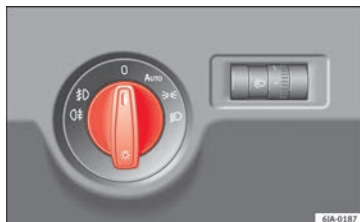

Fig. 129 Instrument panel: light control.
The location of the controls of **right-hand drive** cars differs slightly from the location shown here » **Fig. 129** » page 117. However, the symbols indicating the respective positions of the controls remain the same.
- Turn the light switch » Fig. 129 to position 0.
Daytime running lights are signalling devices for improving road safety. The lights are built into the headlights and come on each time the ignition is turned on if the light switch is in position **0** or **AUTO** » **Fig. 129**. It is automatically switched off when the side lights are turned on.
If the light switch is in this position **AUTO** » Fig. 129, the side lights, headlights and the number plate lights will turn on or off automatically.